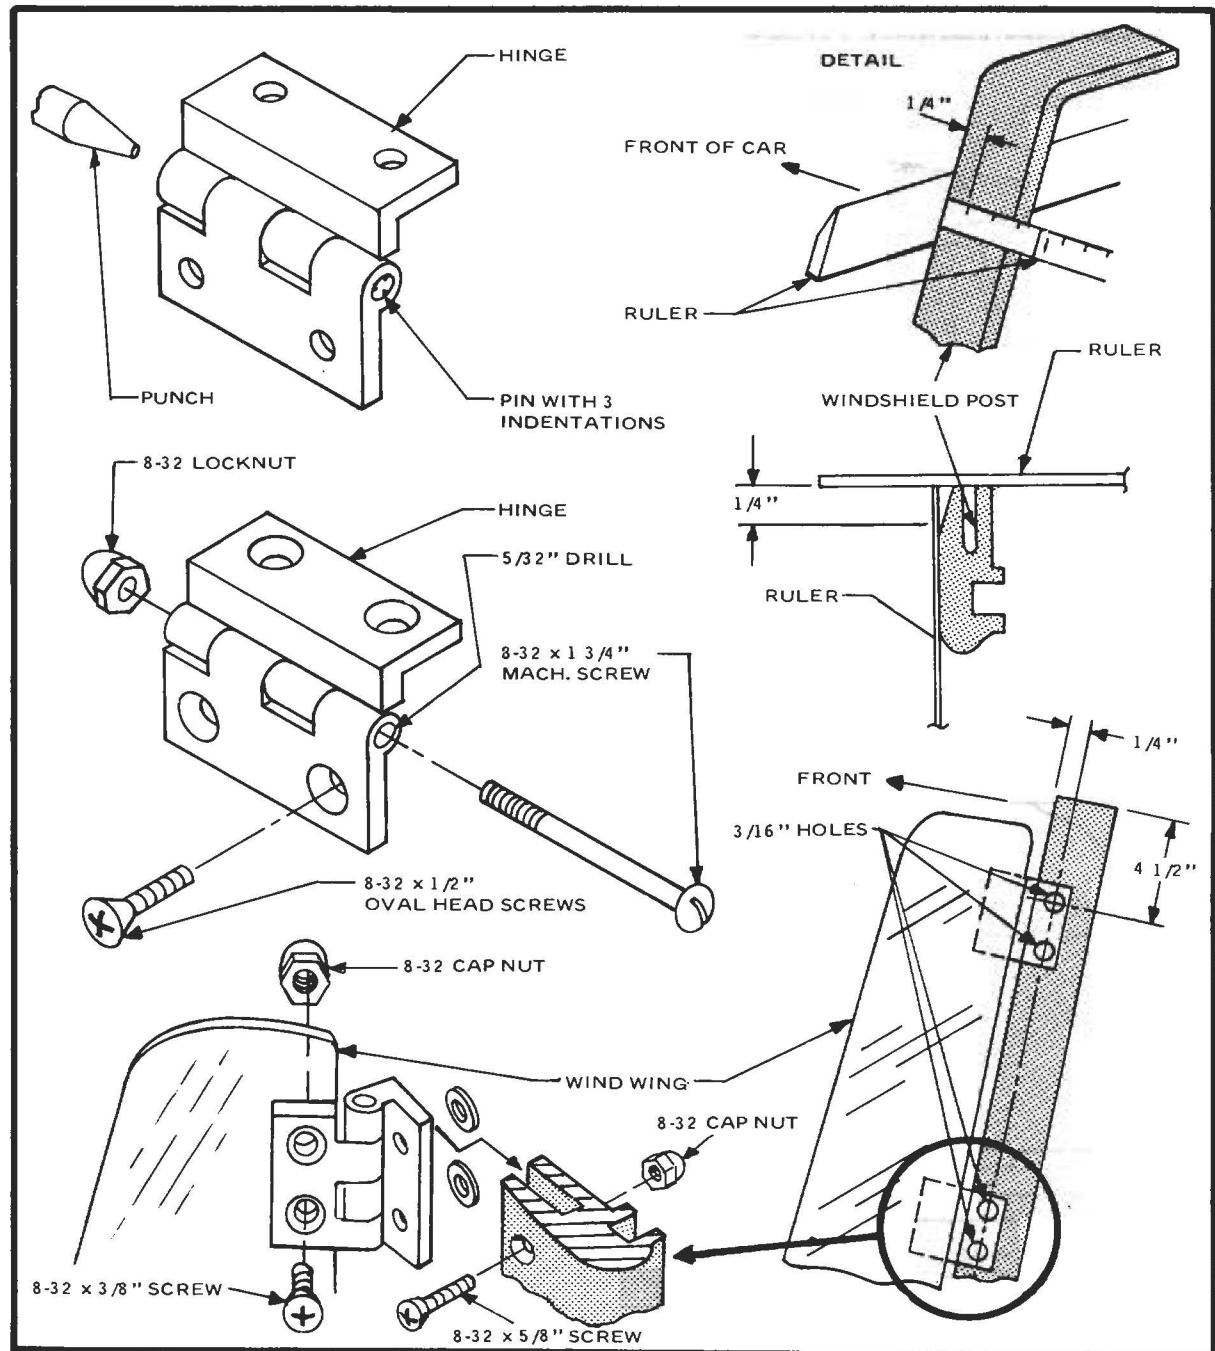

Figure 67
- When the pin is removed, drill the holes in the hinge out to $5/32''$. Install No. 8 x $1\frac{3}{4}''$ machine screws and lock nuts (No. 8-32). Attach hinges to wind wing as shown using No. 8-32 x $1\frac{1}{2}''$ oval head screws and cap nuts. (Figure 67) Large end of wind wing must be at bottom. Measure down $4\frac{1}{2}''$ from top of windshield, and mark frame. Measure in $1/4''$ from front edge of frame (Figure 67). This is done by placing a ruler across the groove in front of the windshield and then measuring back $1/4''$ from the ruler. Repeat further down the frame and connect the points. This will give you a line $1/4''$ from the front edge of the frame. Position wind wing on frame with top hole of top hinge over the two lines scribed earlier. Make sure all other hinge holes fall on $1/4''$ line. Mark at each hole. Remove wind wing and drill $3/16''$ holes at all marked locations. Be sure to keep drill parallel to windshield glass, not frame. Counter sink all holes. Install wind wings as shown using washers as spacers between frame and hinge. (Figure 67) Secure with 8-32 x $5/8''$ machine screws and cap nuts. Repeat for opposite side.